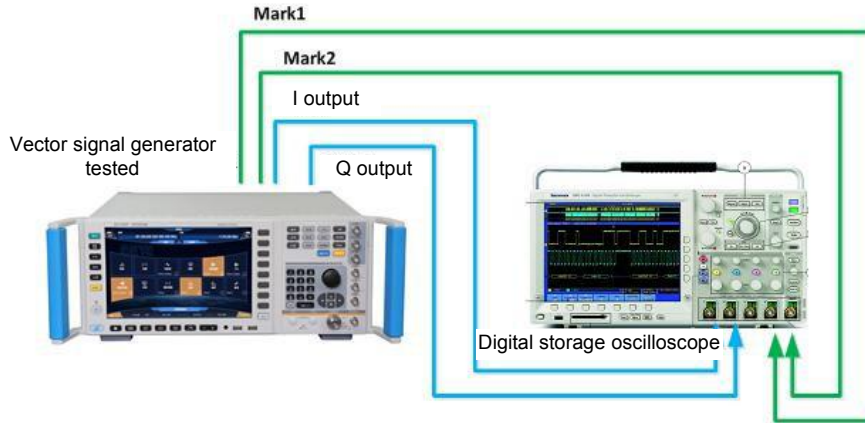

Fig.3.20 Trigger Test
Step 1. Connect the instrument as shown in Fig.3.20.